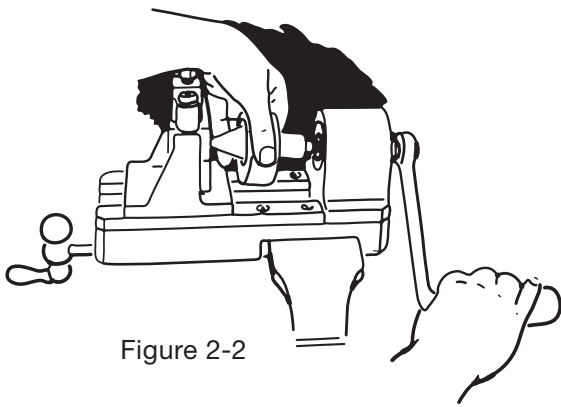

Figure 2-2
b. Tool is packed with flaring assembly in spindle. In order to remove the flaring assembly, before proceeding with the following steps of operation, back off the carriage screw, grasp the flaring assembly firmly with the left hand and turn spindle operating handle counter-clockwise with the right hand. (See figure 2-2.) Continue turning operating handle until flaring assembly can be removed from spindle opening.